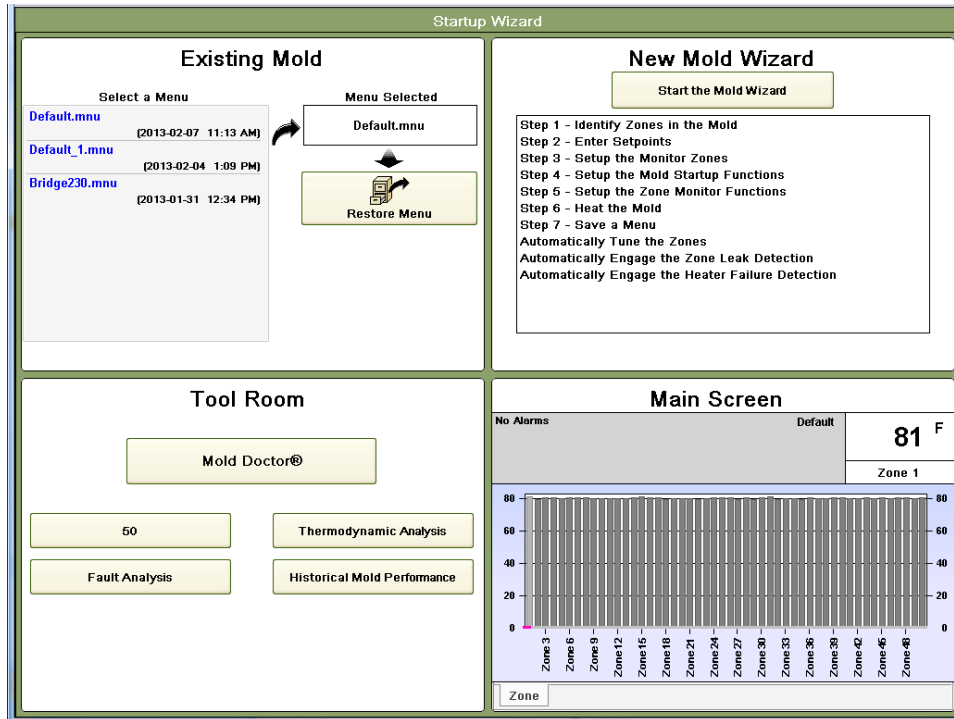

Figure 4a Startup Wizard
The G24 is shipped with the Startup Wizard option selected. Whenever the Startup Wizard option is selection the Startup Wizard shown in Figure 4a will appear when the unit is powered on. The operator can choose between four screens:
- c) **Main Screen** – Use this section to run the tool after a menu has been restored or after the New Mold Wizard has been completed. The screen shown is similar to the Pilot screen and is updated to show existing conditions in the mold. If the control outputs are off and no alarms exist, the top area of the screen will have a gray background as shown in Figure 4a. If the outputs are on, the background will be green when no alarms exist. If alarms exist, the background will be red and the alarms will be listed in the red area. The groups and zone names are updated if a menu is restored. Select Main Screen to exit the Wizard screens and go to the regular graphs and tables described in Section 7.
To setup a new tool, press the **Start the Mold Wizard** button shown in the upper right quadrant of the screen shown in Figure 4a. The wizard will turn off all zones, unlock all zones and reset all settings to default settings. All zones will be temporarily named “Zones” and any existing group tabs will be cleared from the bottom of the screen.